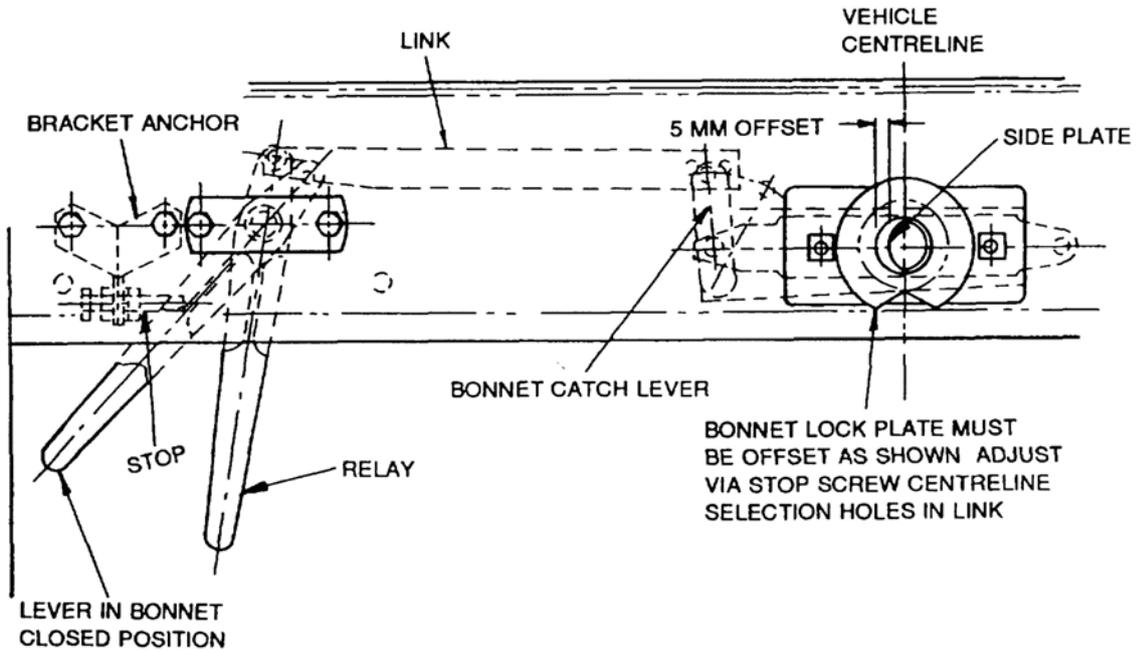

Figure 208 Bonnet Lock Slide Plate
- g. Adjust the anchor stop screw in the closed position so the bonnet lock slide plate travels 5 mm (Figure 208).